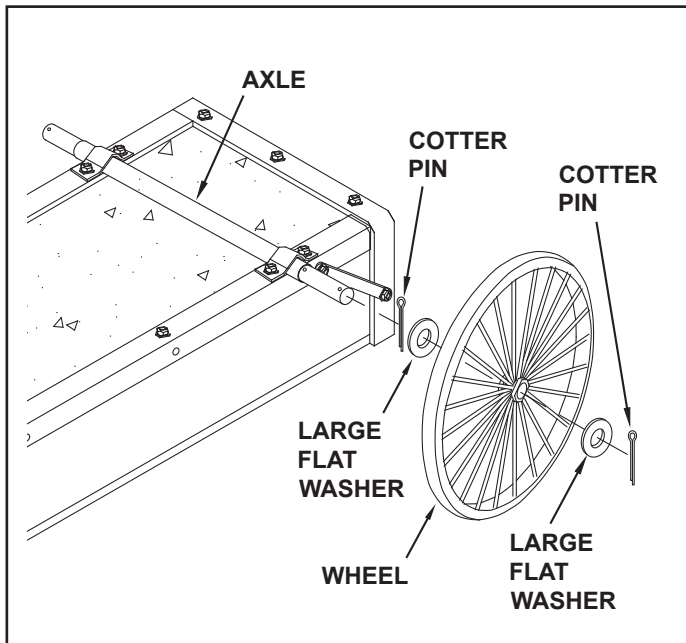

FIGURE 13
20. Assemble a cotter pin to the inside hole at one end of the axle. Place a large flat washer, a wheel and then another large flat washer onto the axle. Secure the wheel with a cotter pin assembled to the outside hole at the end of the axle. Repeat step for other wheel. See figure 13.